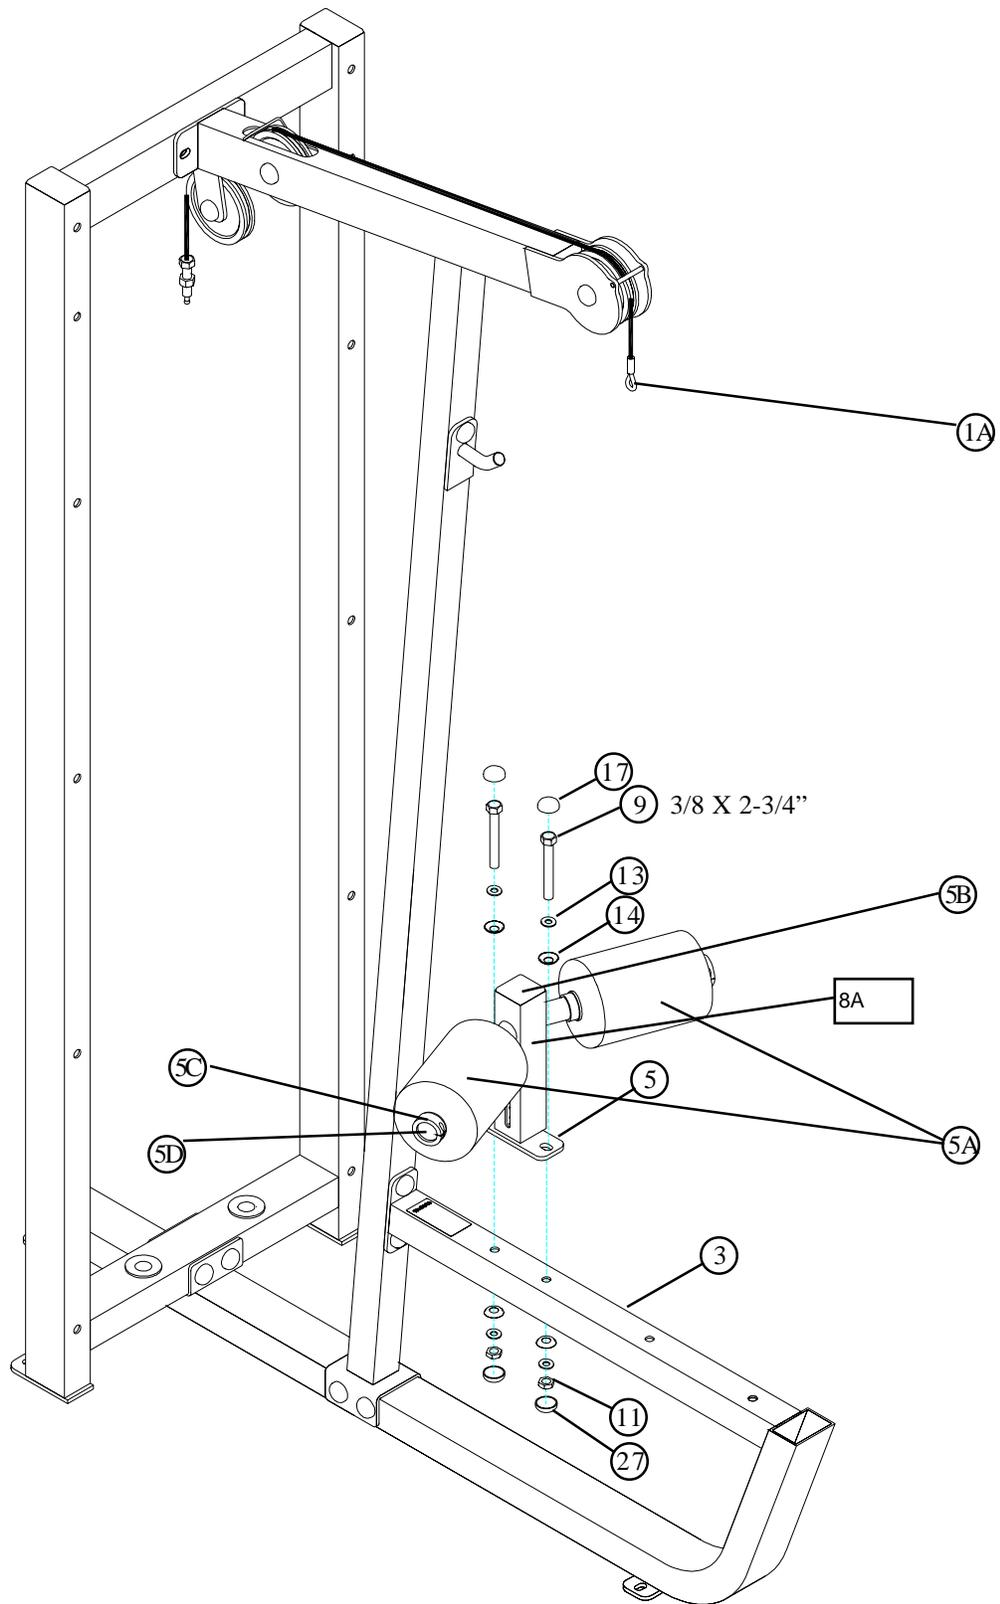

**FIGURE 2**
- **LOOSELY** assemble the MAIN UPRIGHT (2) to the base of the BENCH FRAME (3) using four RH CAPS (27), two 3/8 X 3-3/4" BOLTS (10), four 3/8" RH WASHERS (14) and two 3/8" LOW HEIGHT LOCK NUTS (11) as shown in FIGURE 2.
- **LOOSELY** assemble the MAIN UPRIGHT (2) to the top tube of the BENCH FRAME (3) using four RH CAPS (27), two 3/8 X 2-3/4" BOLTS (9), four 3/8" SAE WASHERS (13), four 3/8" RH WASHERS (14) and two 3/8" LOW HEIGHT LOCK NUTS (11) as shown in FIGURE 2.
- **Securely tighten all loose frame connections made to this point, then proceed to snap RH CAPS (27) over the RH WASHERS (14) on all tightened connections.**